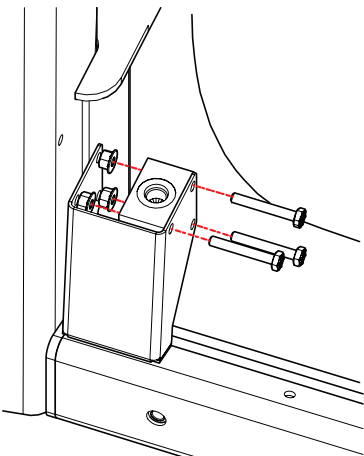

Figure 12: Remove and retain the bolts and nuts that secure the PRD to the bracket.
2. Remove and retain the (3) bolts and nuts that secure the PRD to the bracket (Figure 12).